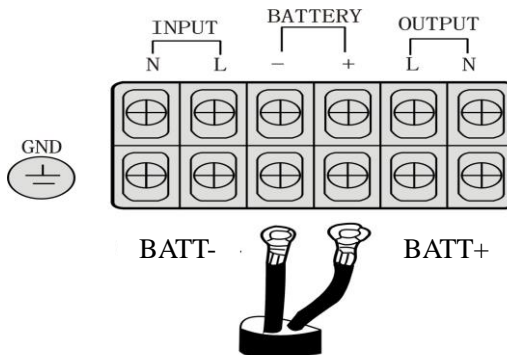

Figure 17
1. If the DC cables are not connected, please install as indicated in figure 17.